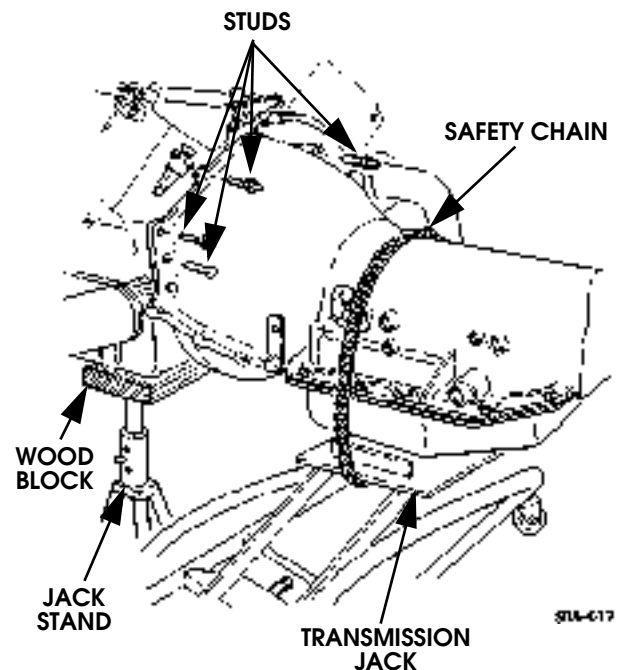

Figure 5-52: Transmission Removal/Installation
20. Secure safety chain around transmission and jack (Figure 5-52).
22. Remove bolts and studs attaching transmission to engine (Figure 5-52).
1. Mount transmission on transmission jack and secure transmission with safety chain (Figure 5-52).